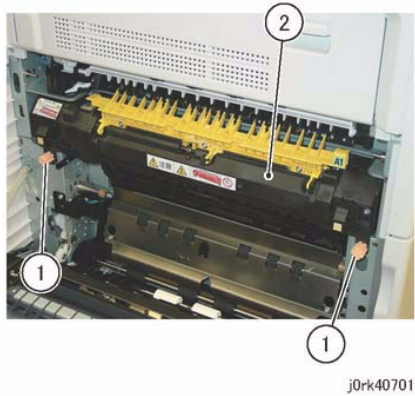

Figure 1 Fuser Assy Removal
3. Remove the Fuser Assembly. (Figure 1)